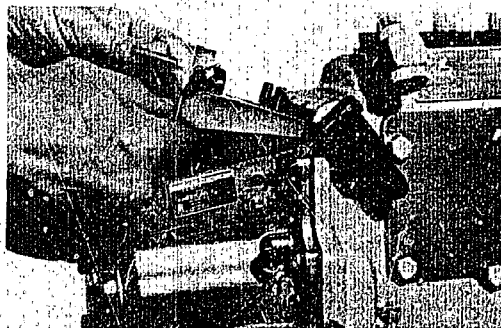

Figure 2 - Installing "K" Dimension-Tool TSE 79100
- 2.4 Install tool over stop plate with dowel pins on pump side (front) of stop plate assembly and press tool against machined inner surface in governor housing (see Figure 2).